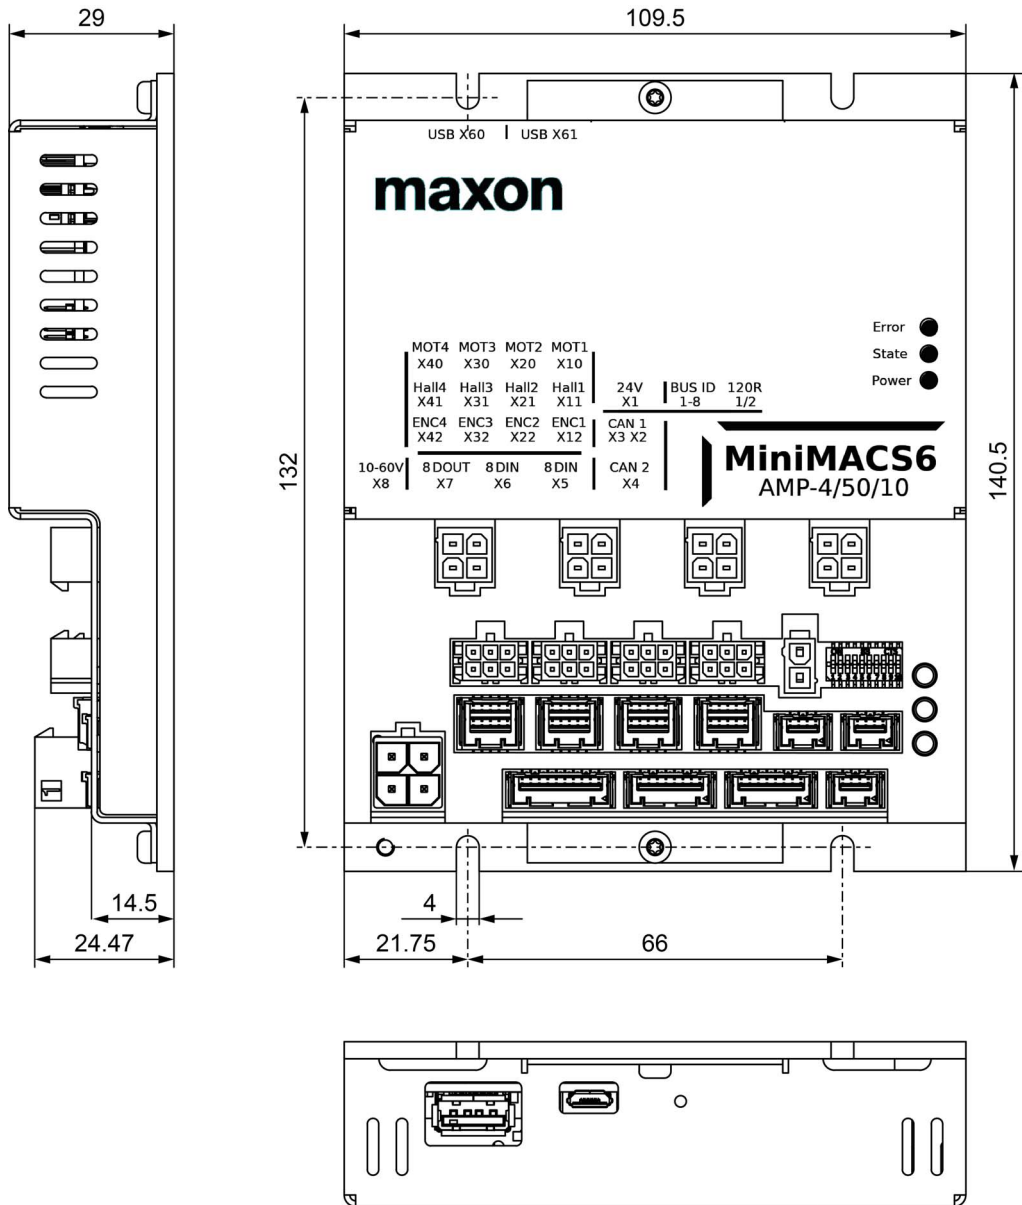

Figure 2-2 MiniMACS6-AMP-4/50/10 (001755) – Dimensional drawing [mm]
- for (001755) see →Figure 2-2 on page 2-14,